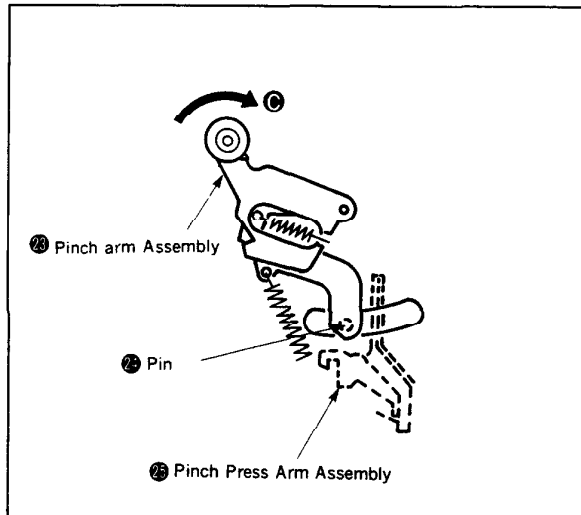

Fig. 19
- 1) As shown in Fig. A, apply Molyton grease to the arrow-indicated part of the LS chassis assembly ⑦.
- 2) Unload in the RDY mode. Start docking in the **Q, REW** mode after first GL. When docking the mechanical chassis and LS chassis assembly ⑦, it is necessary to place the following parts at specified positions.
- 3) Put the pin ② of the pinch arm assembly ③ into the left side of the pinch press arm assembly ④. (Fig.19)